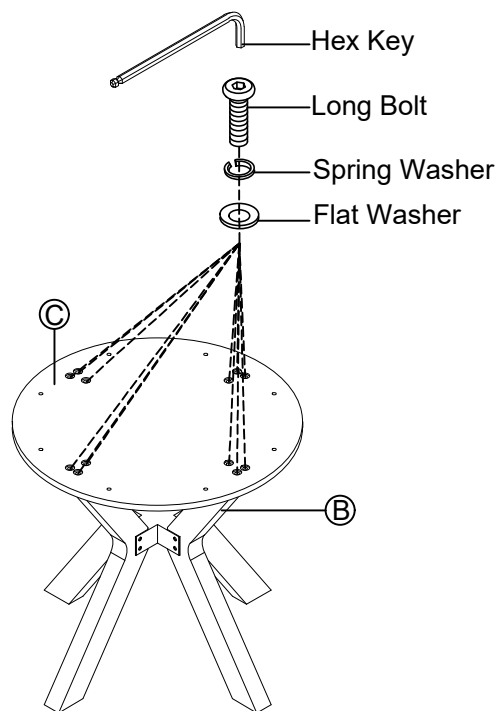

Figure 2
Assemble Connecting Panel (C) to Table Leg (B) with 12 Long Bolts (3), 12 Spring Washer (2) and 12 Flat Washer (1), fully tighten with Hex Key (5). (See Figure 2.)